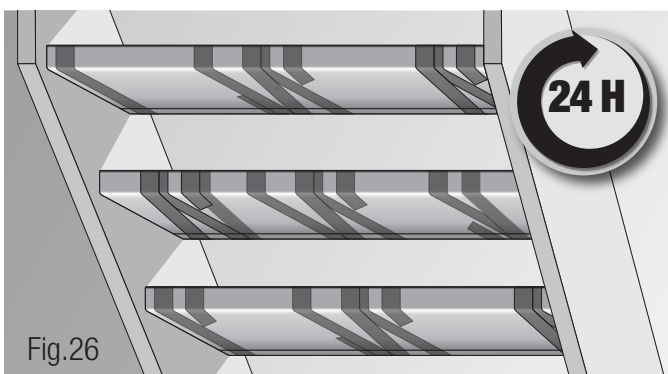

Fig.26
8. Finish the remaining steps following the above procedures one at a time. Refer to Figure 26.